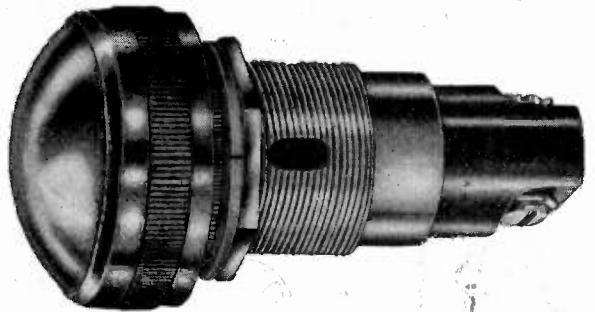

FIG. 2
- 61901-111 Screw cap, Large convex lens, frosted back (Fig. 2) Screw terminals (Fig. 8)